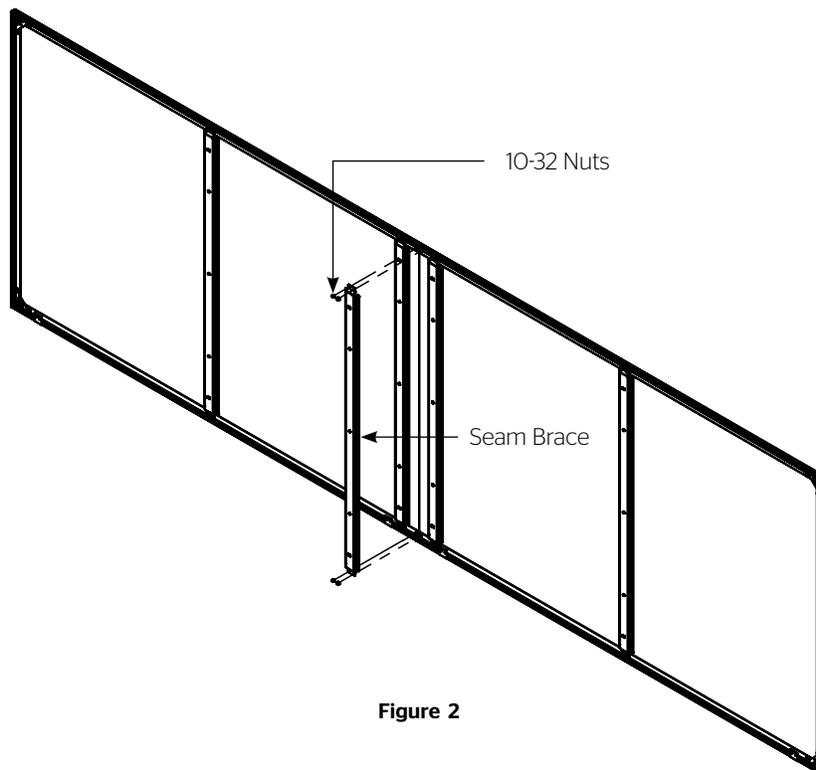

Figure 2
5. Use  $\frac{3}{8}$ " open wrench or socket driver and (4) 10-32 nuts to attach seam brace onto the studs on the top and bottom of screen frame at the center seam. Tighten all four nuts once attached to the frame (Figure 2).